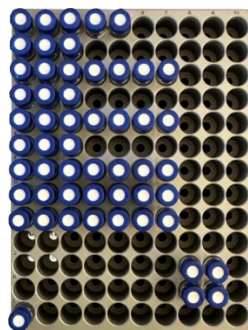

Figure 64 - Run Sequence with Standards
2. The standards must be run one after another at the beginning of each sequence to be analyzed. The post processing software works sequentially and therefore requires the linearity of the known standards before it can correct the unknown values of the samples. It is recommended to include standards in the middle and end of the sample set as controls. An example is shown (Figure 64 - Run Sequence with Standards), vials with the CYAN stars indicate the standards: